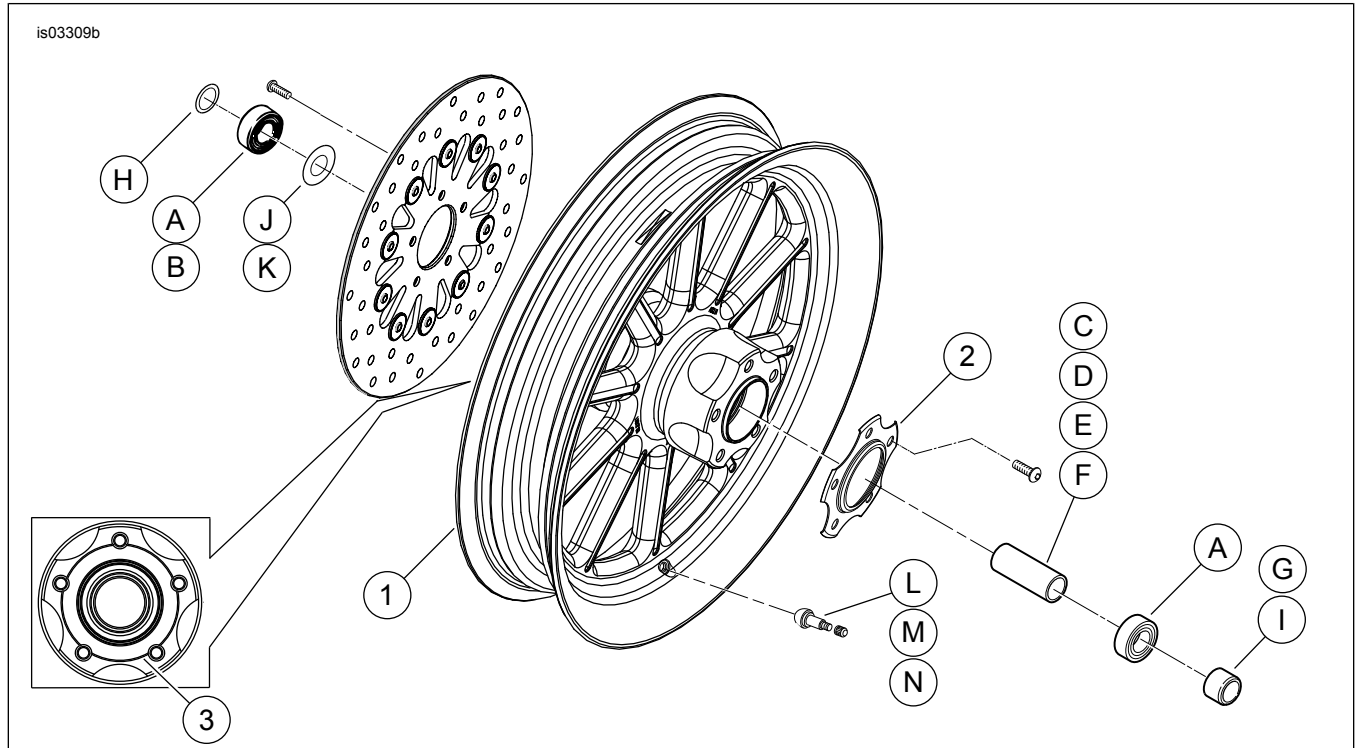

Figure 2. Service Parts: Front Revolver Wheel (16-inch Wheel Shown)
2. See Figure 2. Install valve stem assembly (M) on wheel. Refer to TIRES in service manual.
- See Figure 2. For dual brake disc models, install the brake discs according to the service manual. The chrome hub cap (2) is not used.
- See Figure 2. For single brake disc models, install the brake disc according to the service manual. The chrome hub cap (2) is installed on the opposite side of the wheel from the brake disc.